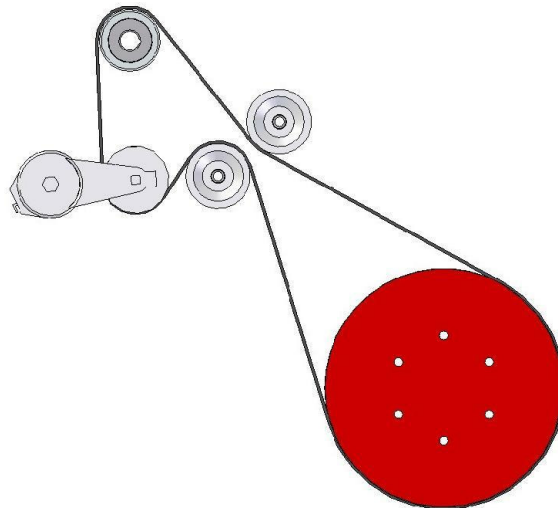

Figure 4
22. Install the Raven belt according to **Figure 4**. Assure that the belt is seated correctly on all pulleys and idlers.